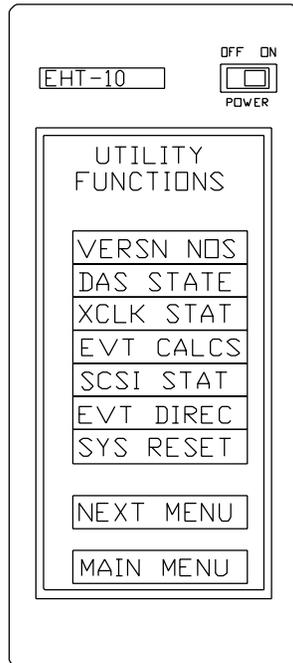

Figure 11 Utilities Functions Menu (Part A)
- * Press **Utilities** on the FST Main menu. The hand terminal displays part A of the Utilities Functions menu, as shown in figure 11.
- * Press **Utilities** on the FST Main menu. The hand terminal displays part A of the Utilities Functions menu, as shown in figure 11, above.
- * Press **Utilities** on the FST Main menu. The hand terminal displays Part A of the Utilities Functions menu, as shown in figure 11, above.